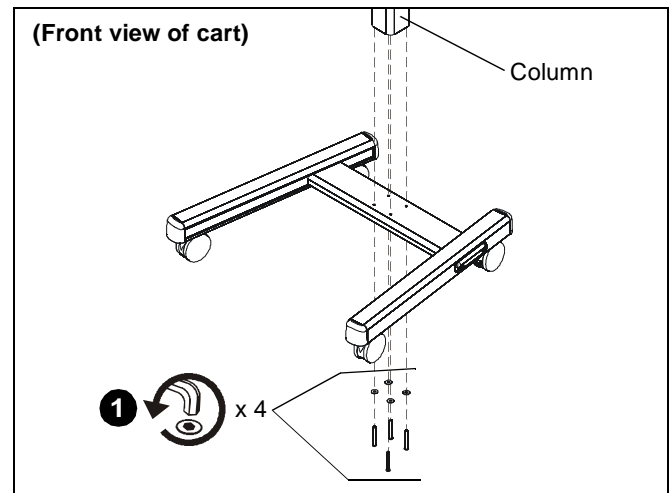

Figure 3
1. Remove and save four button head cap screws and four washers from cart legs. (See Figure 3)